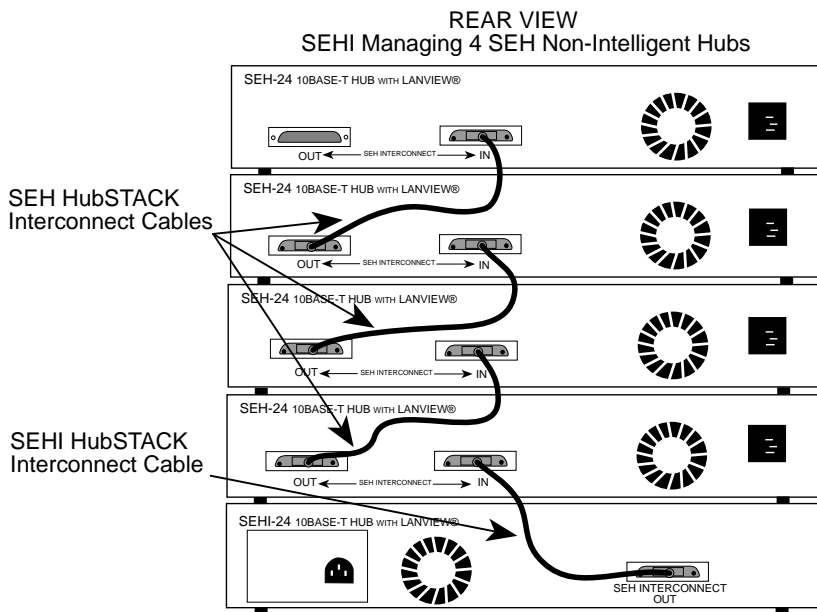

Figure 3-1. Stacking the SEHI
1. Attach the SEHI HubSTACK Interconnect cable to the “OUT” port on the rear panel of the SEHI as shown in Figure 3-1.
1. Attach the SEH HubSTACK Interconnect cable to the “OUT” port on the rear panel of the SEH as shown in Figure 3-1.